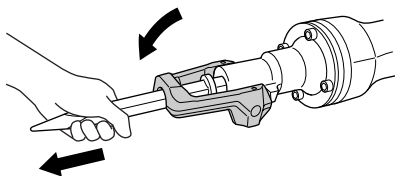

Fig. 5
- (3) Clamp the accessory into place by bringing the retainer to the clamp position. To make sure that the accessory is properly mounted, pull on the accessory. (Fig. 5)